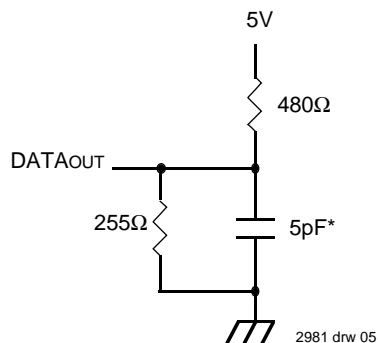

Figure 2. AC Test Load
2. This parameter is guaranteed with AC Load (Figure 2) by device characterization, but is not production tested.